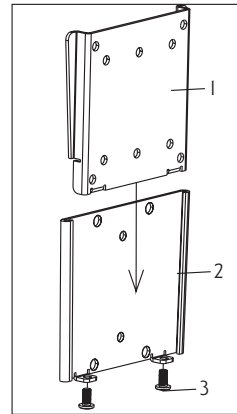

Fig 3
Gently lower monitor into position, sliding the two plates together until the Monitor Plate bottoms out. (Fig. 3)
Install two Safety Bolts (3) through bottom of Wall Plate. (Fig. 3)